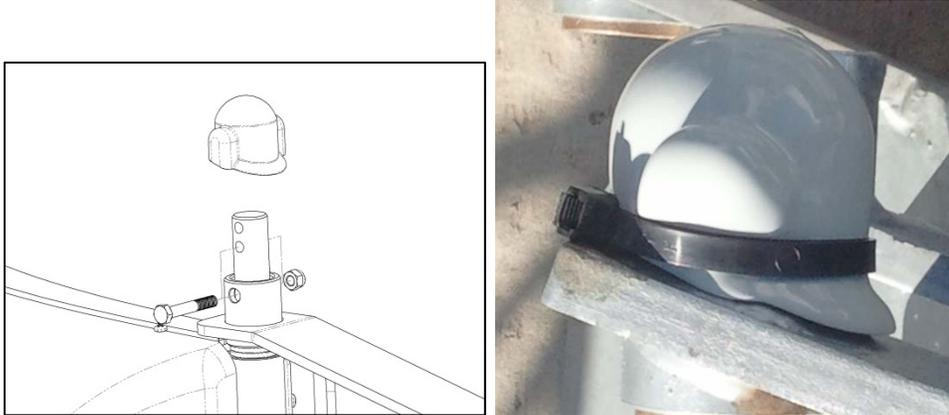

Figure 16: Tail Pivot Pin Cap
17. Place the tail pivot pin cap on the pivot pin and use a zip tie to secure it in place, as shown in **Figure 16**.